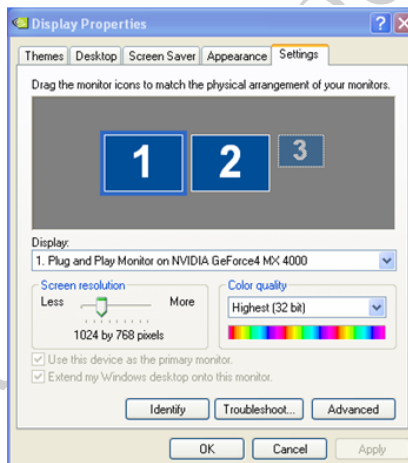

Figure 12-2
Click [**Property**] and the property menu will appear (Figure 12-2), click [**Set**] and the monitor (2) is activated. Select [**Expand the content of Windows to the monitor**] under the frame and press [**Application**] button, and then confirm. In this way, setting has been finished and the backstage playing can be realized. At this time, when pressing [**Back**] button of <LED studio device> too bar, the playing window will switch at the front and back stage of the monitor. When the playing window is switched to the front stage, the displaying screen will indicate Windows interface.
The following reverse settings shall be carried out when the front-stage playing replaces the backstage playing: right click the blank place in the desktop and Figure 12-1 will appear and then select [Property], Figure 12-2 will appear. Click [Monitor 2] and remove [√] on the [Expand the content of Windows to the monitor] and click [Monitor 1]. Press [ok] and right click the mouse, Figure 12-1 will come out. Select property and Figure 12-2 will appear and